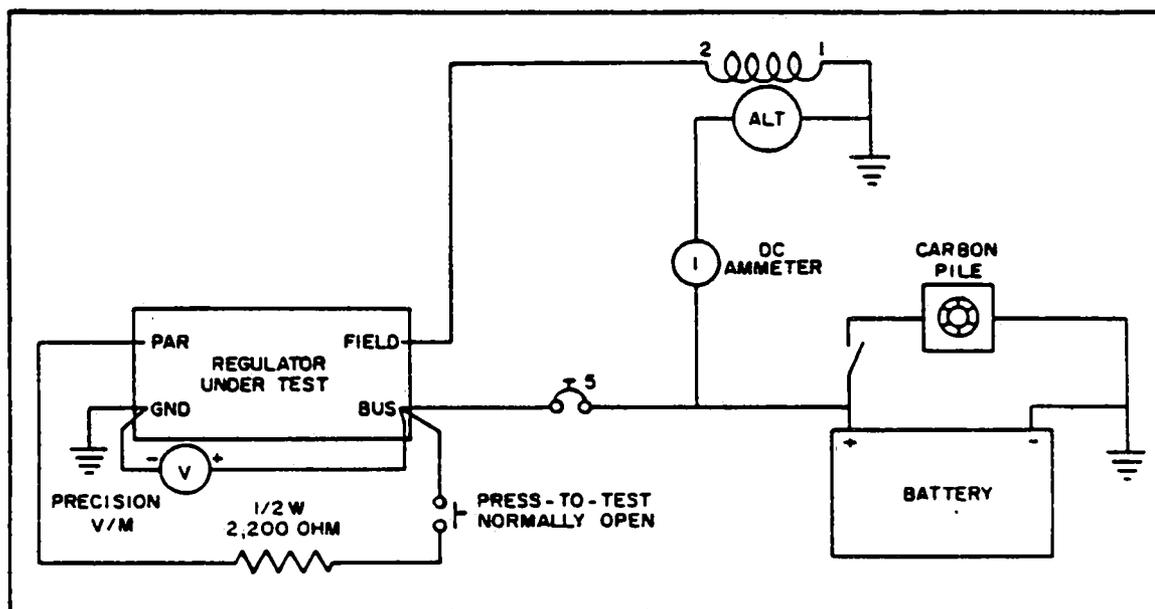

Figure 11-36a. Testing Regulator (LAMAR)
a. The procedure for testing the regulator, whether on the airplane or on the test bench, remains the same. Connect the test meters and regulator wiring as shown in Figure 11-36a.
d. With the connections made as shown in Figure 11-36a, start the engine and adjust its speed to approximately 920 to 1250 RPM to obtain 3,000 to 4,000 alternator RPM. Turn on accessories as needed to establish a 10 to 15 ampere load value. Note that the battery charge current is indicated by the ammeter. Therefore, the current valve may change downward at the beginning of a test run. This will be especially true if the battery was used for engine starting.